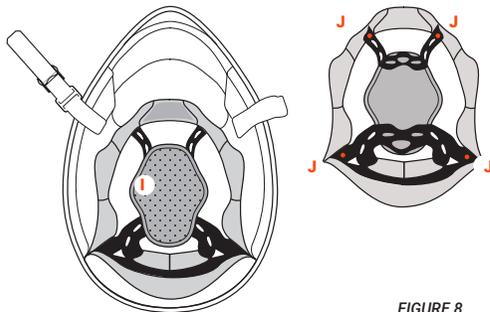

FIGURE 8
**Inner central padding: INNER SHELL – I – Figure 8****Assembly and disassembly**